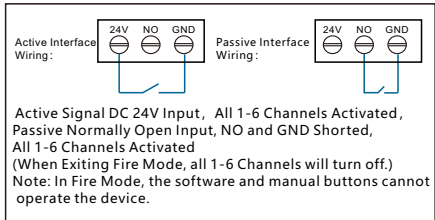

Figure 8. Fire Interface Description
- Fire interface: (see Figure 8)